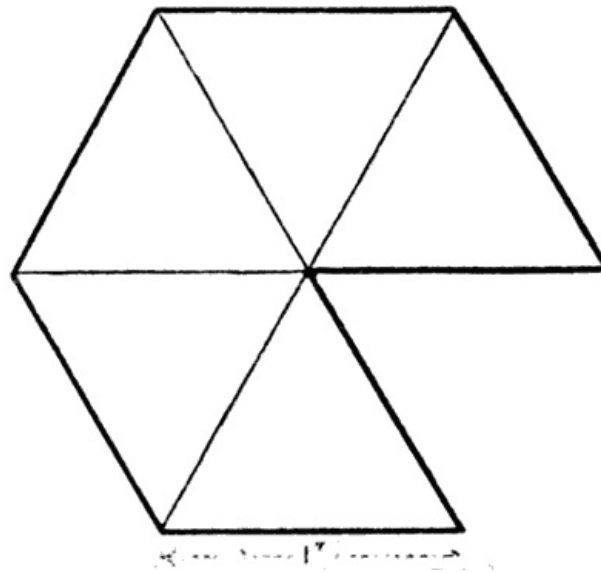
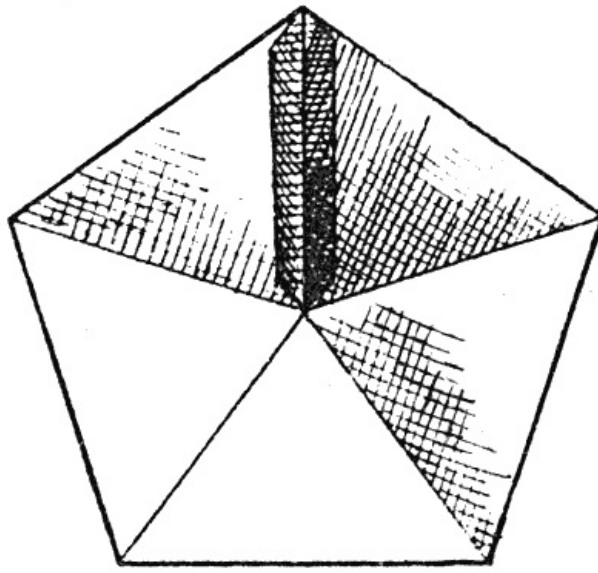
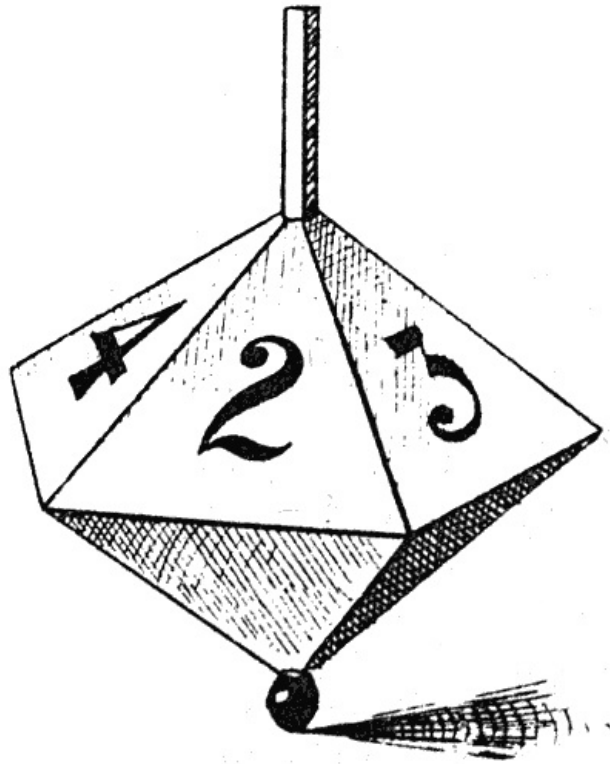

FIG. 5.
FIG. 6.
FIG. 7.
*A simple Counting Top.*—Take a piece of cardboard, and on it draw two hexagons having 1-inch sides. To draw a hexagon, first draw a circle with its radius equal to the length of the side of the hexagon. Then without altering the compass measure off the radius six times round the circumference, and join the neighbouring points. Now cut out each of these and from each one cut out one triangular section (Fig. 5). Scratch lightly along the other lines with the back of the knife-point. Now bend these so as to form two five-sided pyramids. Close up the open space by binding the edges together with a strip of gummed paper (Fig. 6). When you have done this, place the two pyramids base to base, and secure them by means of small strips of gummed paper fixed along the edges. Bind all the edges in similar fashion for the sake of uniformity. All that is necessary now is to make a hole at the apex of each pyramid, and push an ordinary safety match through (Fig. 7). Now if you twirl the match in your fingers, and release it suddenly, the top will spin for quite a long time. To use it as a "counting top" or "dice top" paint the numbers 1 to 5 on the five triangular surfaces of the upper pyramid. Then when the top ceases spinning, the uppermost number is the one which counts.